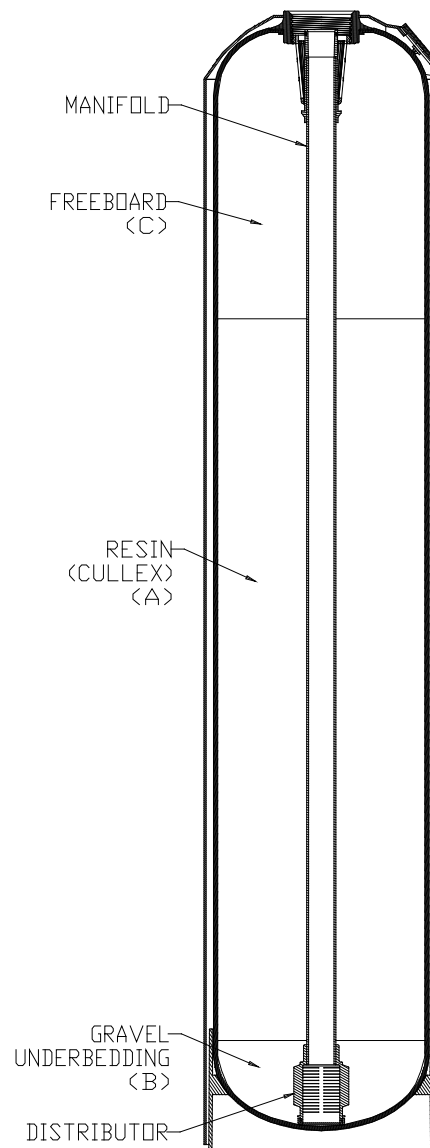

Figure 2. Media Tank
**Media Tank (Figure 2)** -The letters underneath the component’s description refer to the values listed on Appendix A, Table 15 on page 63.